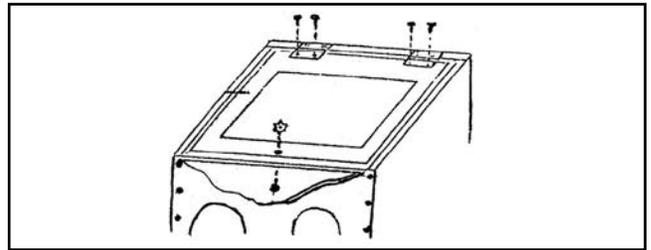

Figure 5. Hinge and knob assembly.
5. Install window, hinges, lock latches, and the knob (Figure 5).